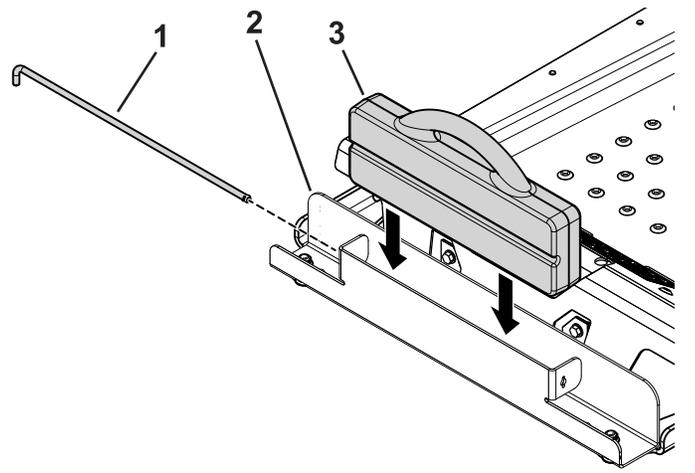

Figure 5
- Insert the suitcase weight into the weight tray with the groove side facing toward the front of the machine (Figure 5).
- Insert the retaining rod into the tray and rotate it into the locked position (Figure 5).